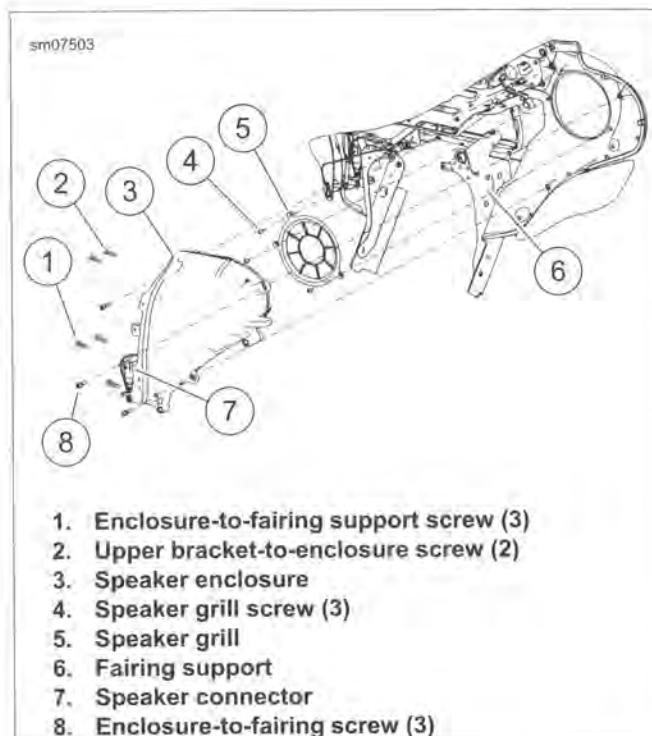

Figure 7-86. Speaker Enclosure
3. See Figure 7-86. Disconnect speaker connector (7).
6. Remove three screws (1) securing enclosure to fairing support (6).
7. Remove two screws (2) securing enclosure to upper support bracket.
8. Remove three screws (8). Remove speaker enclosure from fairing.
4. See Figure 7-86. Install speaker enclosure to inner fairing. Secure with three screws (8). Tighten to 48-60 **in-lbs** (5.4-6.8 Nm).
5. Secure enclosure to fairing support (6) with three screws (1). Tighten to 20-24 **in-lbs** (2.7-3.2 Nm).
6. Secure enclosure to upper support bracket with two screws (2). Tighten to 48-60 **in-lbs** (5.4-6.8 Nm).
2. See Figure 7-86. Remove three screws (4).
3. Remove speaker grille (5).
4. Install speaker grille and secure with screws (4). Tighten to 9-13 **in-lbs** (1.0-1.4 Nm).